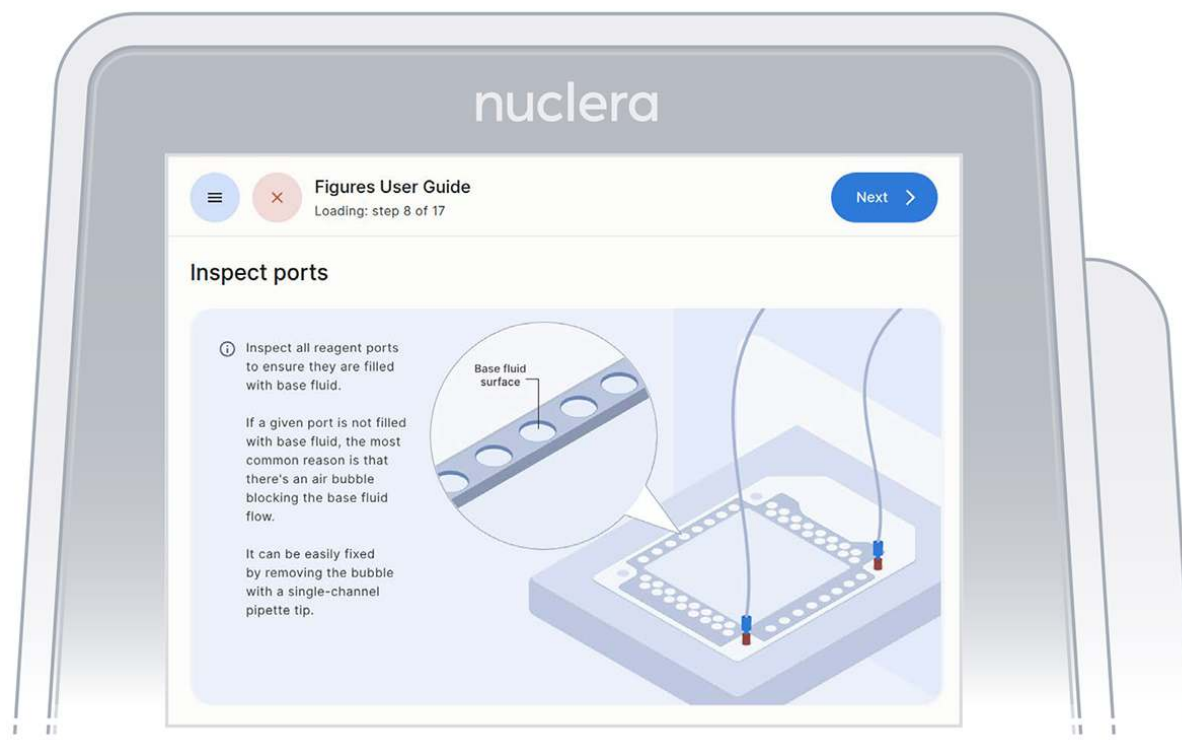

Figure 18: Procedure to remove potential air bubbles from the cartridge
4. Inspect the ports on the cartridge after the priming with base fluid is complete. Ensure all the ports are filled and press the [Next] button (Figure 18).